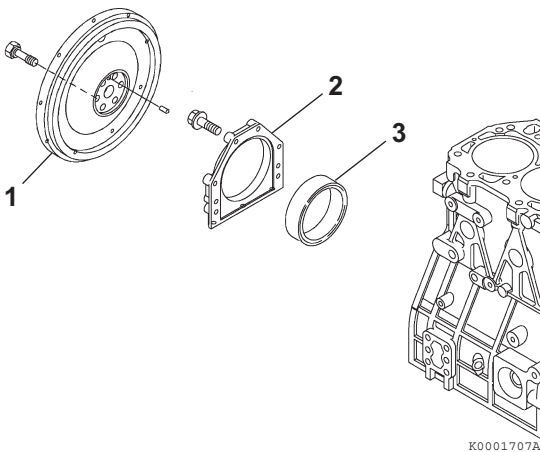

Figure 6-66
3. Remove the rear oil seal (**Figure 6-66, (3)**) from the seal housing (**Figure 6-66, (2)**).
4. Apply a continuous bead of ThreeBond Liquid Gasket No. 1207F, YANMAR Part No. 977770-1207F to the outside diameter of a new oil seal (**Figure 6-66, (2)**), and install in the housing. Apply lithium grease to the lip of the seal.